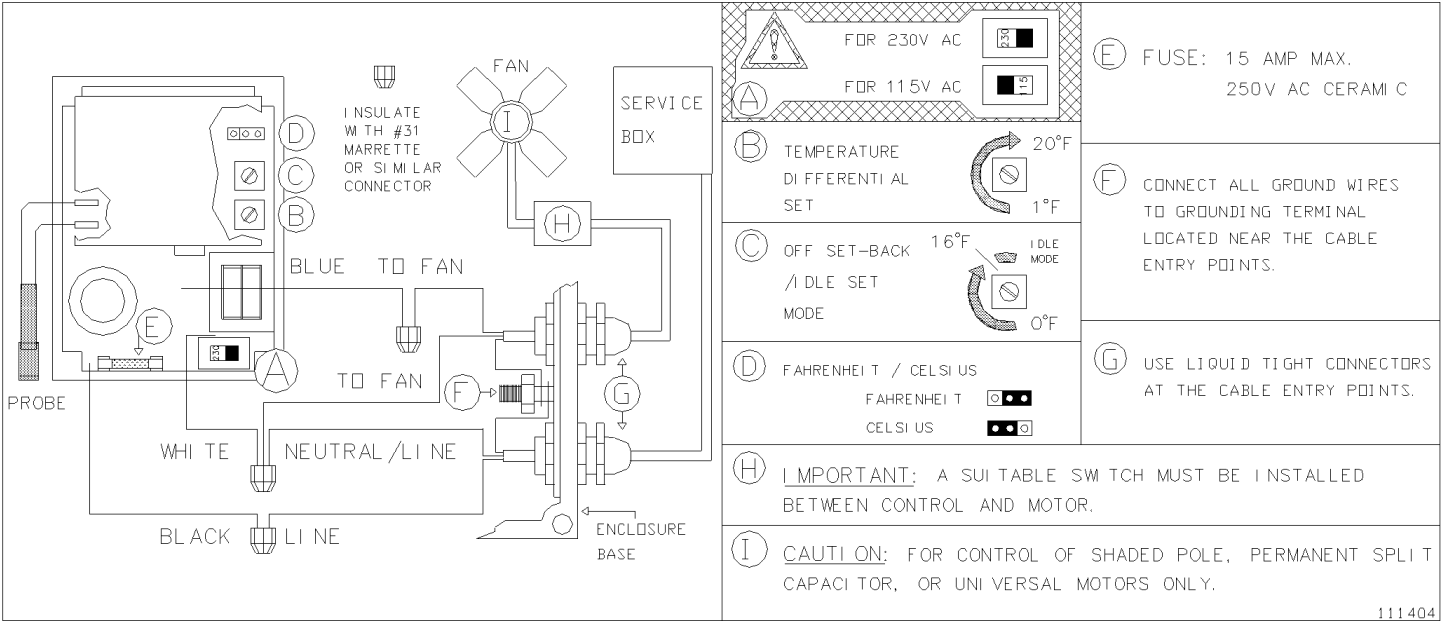

Figure 1: Wiring Diagram
- Connect the wires as shown **Figure 1**.
- Use a small flat screwdriver to adjust the internal trimmer. See **Figure 1**, section B for trimmer location.
- Use a small flat screwdriver to adjust the internal trimmer to the desired OSB or turn the trimmer fully clockwise to put the control into IDLE SET mode. See **Figure 1**, section C for trimmer location.